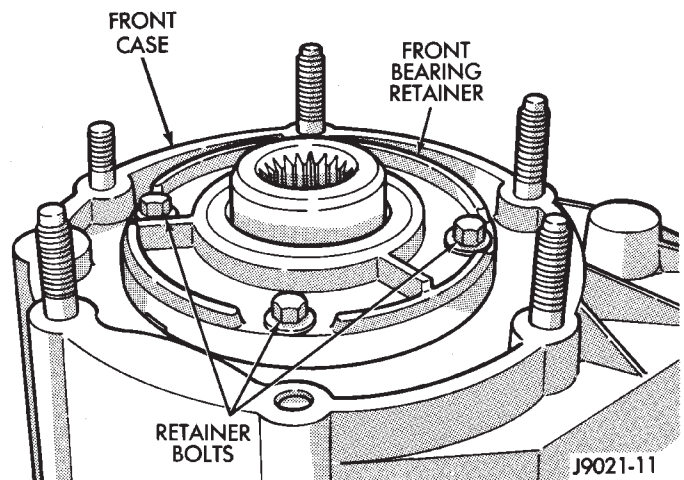

Fig. 31 Front Bearing Retainer Bolts
- (1) Remove front bearing retainer attaching bolts (Fig. 31).